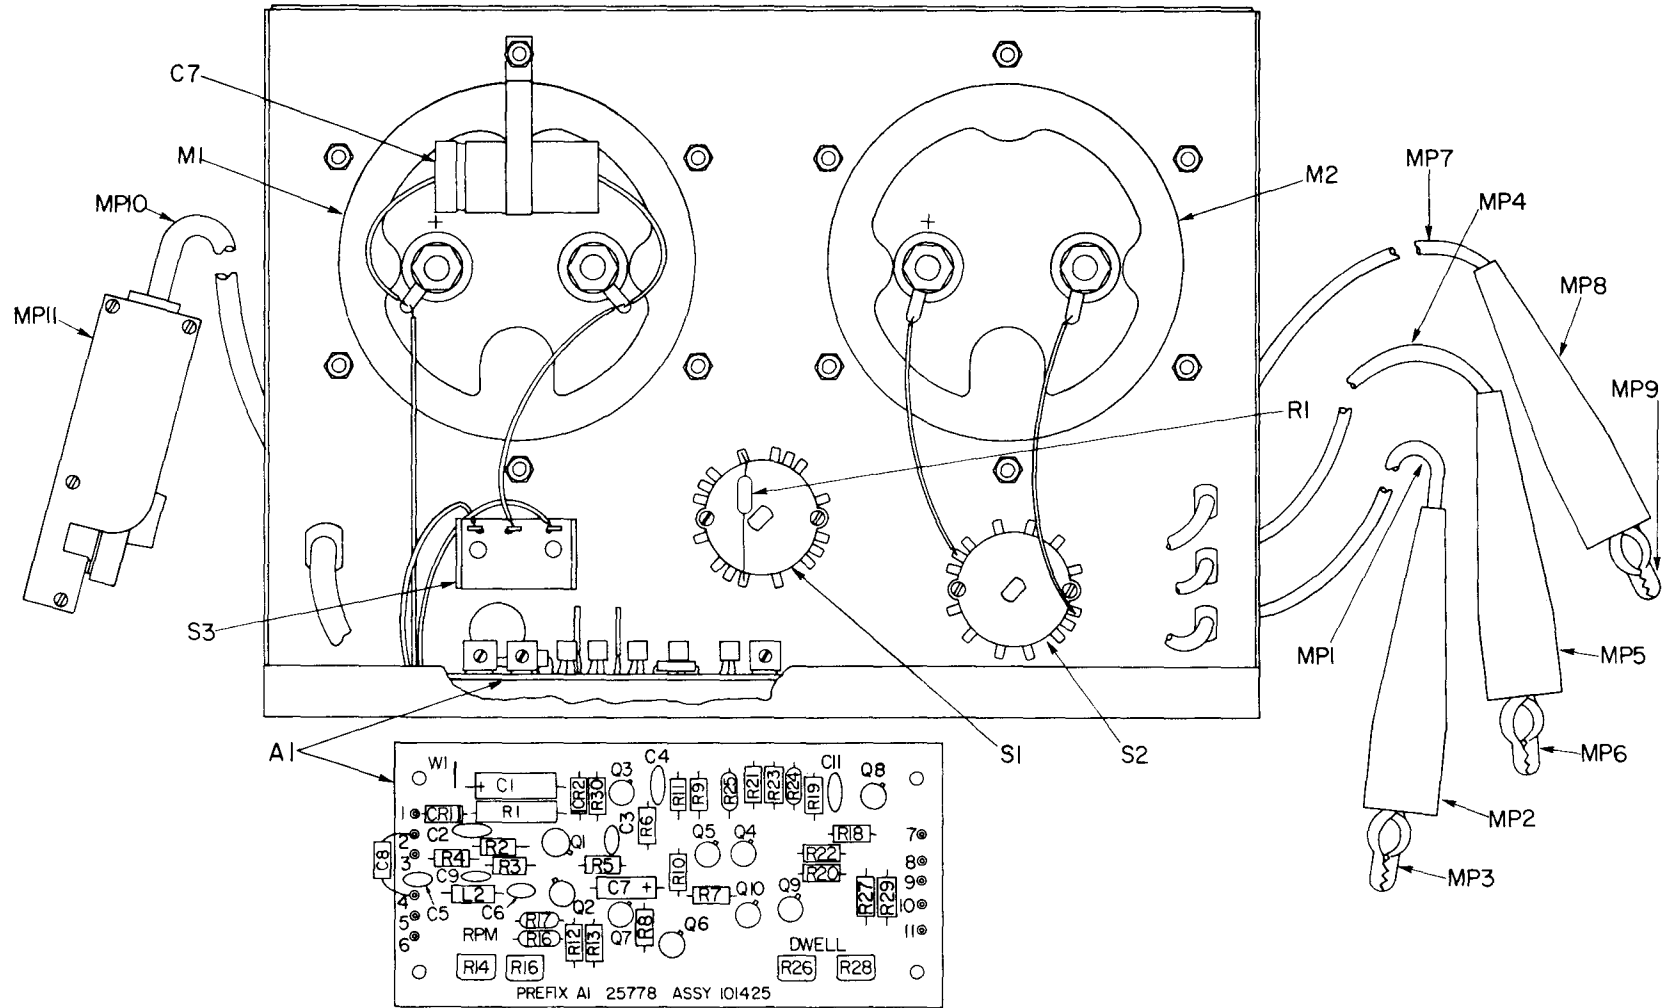

FIG. 5-1. PARTS LOCATION
1. Remove the test set panel assembly from the case (see fig 5-1).
5-1. GENERAL.FIGURE 5-1 SHOWN ALL REPLACEABLE PARTS FOR THE TEST SET. TABLE 5-1 LISTS THE PARTS SHOWING MANUFACTURER, INDEX NUMBER, REFERENCE DESIGNATION (FOR ELECTRONIC PARTS) AND MANUFACTURER'S PART NUMBER. TABLE 5-2 LISTS THE MANUFACTURER'S NAME AND ADDRESS REFERRED TO THE FEDERAL SUPPLY CODE FOR MANUFACTURERS.